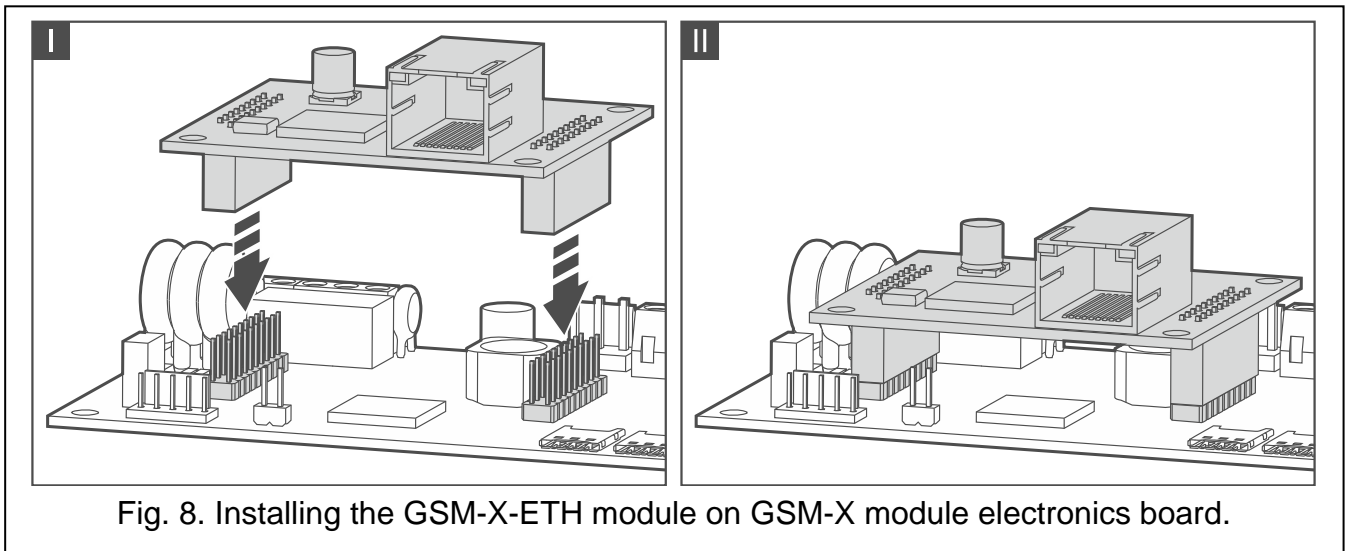

Fig. 8. Installing the GSM-X-ETH module on GSM-X module electronics board.
3. Install the GSM-X-ETH Ethernet module in the connectors on the GSM-X module electronics board (Fig. 8).